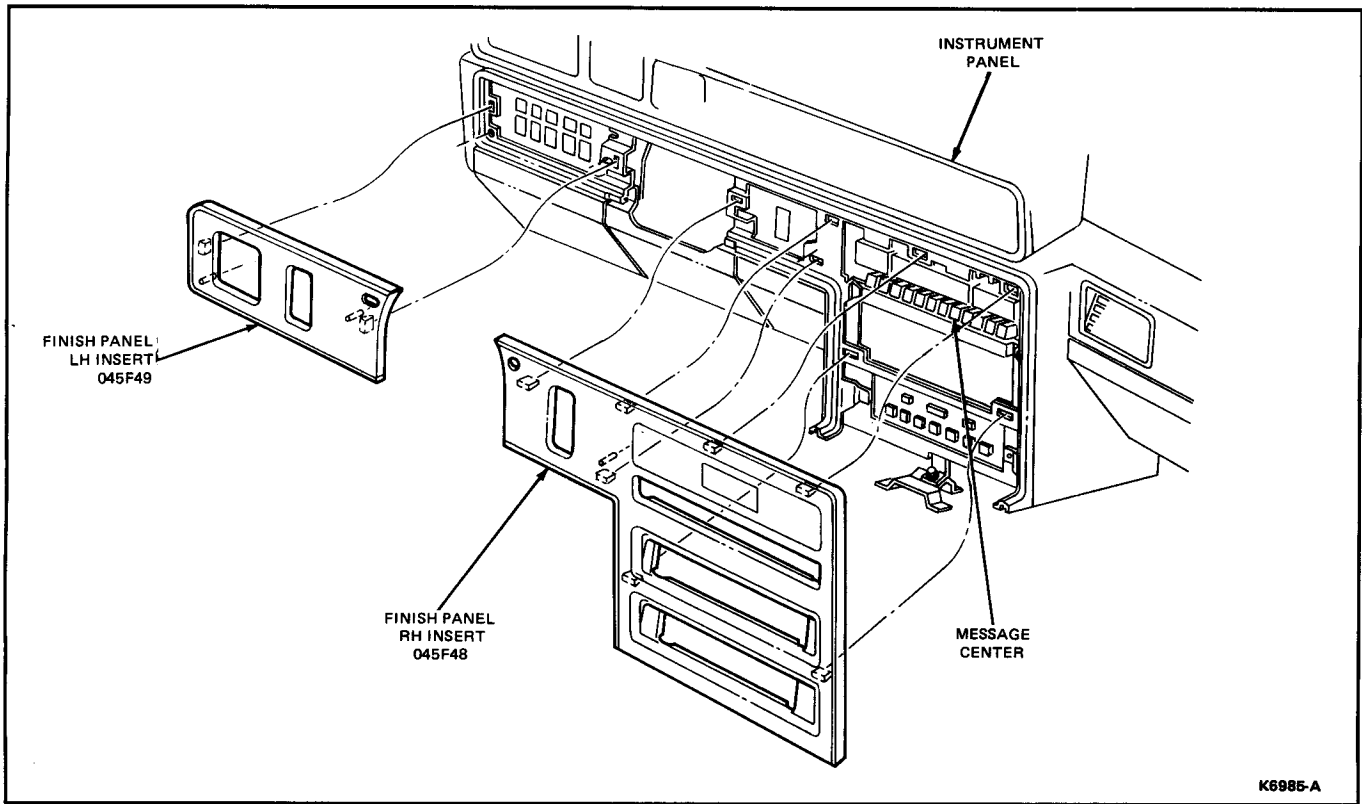

FIG. 6 Instrument Panel/Finish Panels—Mark VII
3. For Continental, remove the 17 screws holding the finish assembly and remove the finish assembly (lift the instrument panel pad). On Mark VII, remove the attaching screws and the finish panel RH insert (Fig. 6).